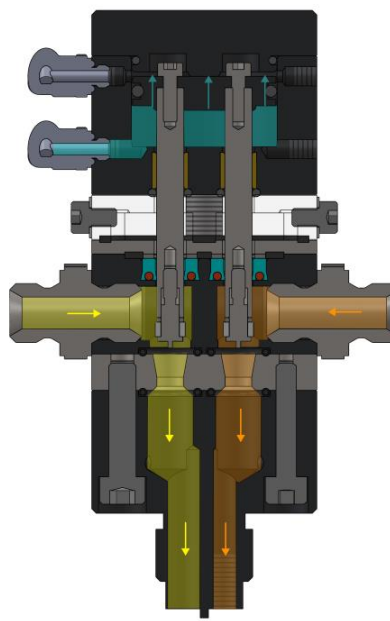

Figure 03 – Dosing phase
- The pins are opened, and the fluids begin to come out (Figure 03);